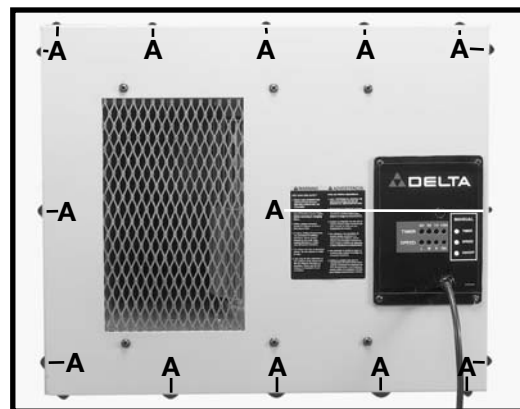

Fig. 2D
5. Secure the back panel to the cabinet with the 4 original screws plus 12 additional #8 pan head screws (supplied) in the holes provided (A) Fig. 2D.